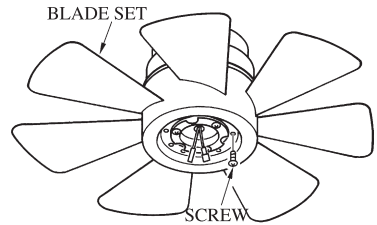

FIG.2
2. Remove four screws from the side of motor housing; put the assembled fan inside center band, and tighten center band with screws. (see fig. 2)